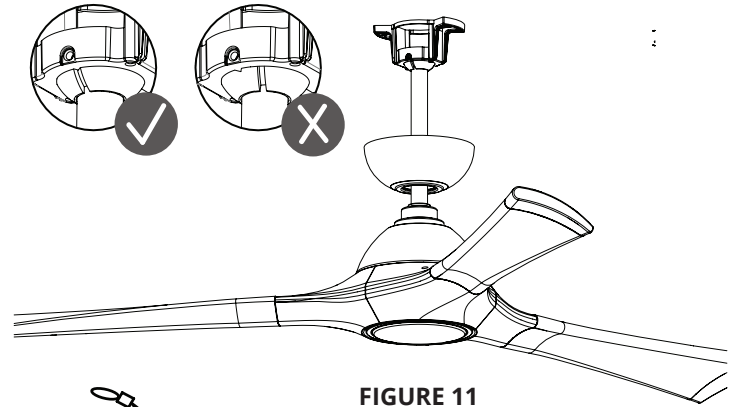

FIGURE 11
1. Carefully lift the fan motor assembly up to the mounting bracket and seat the hanger ball in the mounting bracket socket. Make sure the tab on the mounting bracket socket is properly seated in the groove in the hanger ball (Fig. 11). Rotate the socket assembly until the ball drops and locks into the hanger bracket screw.